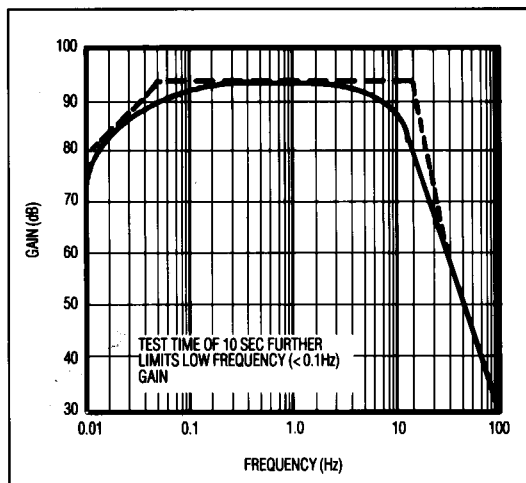

Figure 6. 0.1Hz to 10Hz  $V_{p-p}$  Noise Tester Frequency Response
3. As shown in Figure 6, the 0.1Hz corner is defined by only one zero. A maximum test time of 10sec acts as an additional zero to eliminate noise contributions from the frequency band below 0.1Hz.